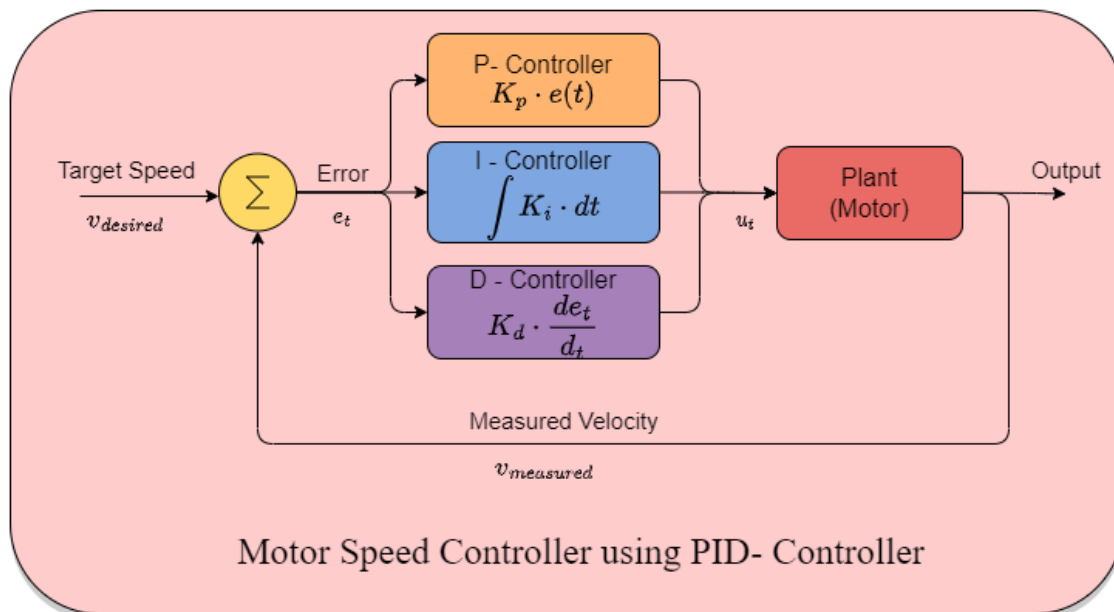

Figure 2-PID
- The code employs a PID control approach to regulate the wheel speed. It begins by calculating the error in velocity (`errorVelocity`) as the difference between the target velocity and the current velocity. This error represents the deviation from the desired speed. Figure 2 explains the PID controller structure